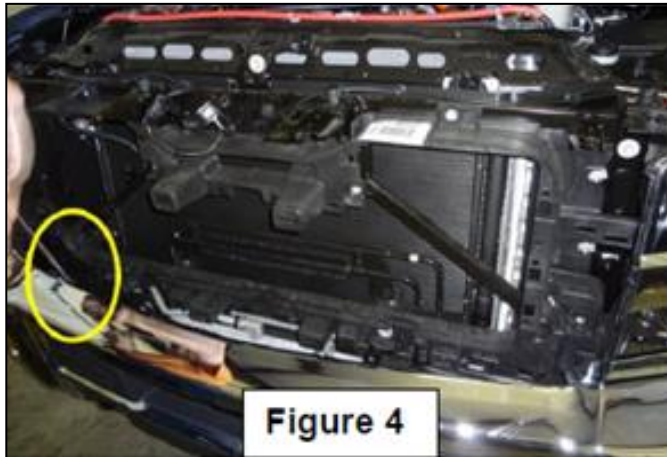

**Figure 3a (Electrical Harness Disconnected)**
3. Disconnect the electrical harness (**Fig 3A**) from vehicle and remove tow hooks. Tow hooks are mounted with one cross bolt through the side and a bolt through the bottom of the frame (**Fig 3B**).